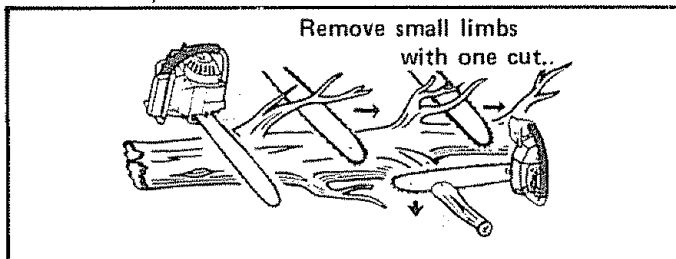

Figure 34
- Start at the base of the felled tree and work towards the top cutting branches and limbs. Remove small limbs with one cut. Figure 34